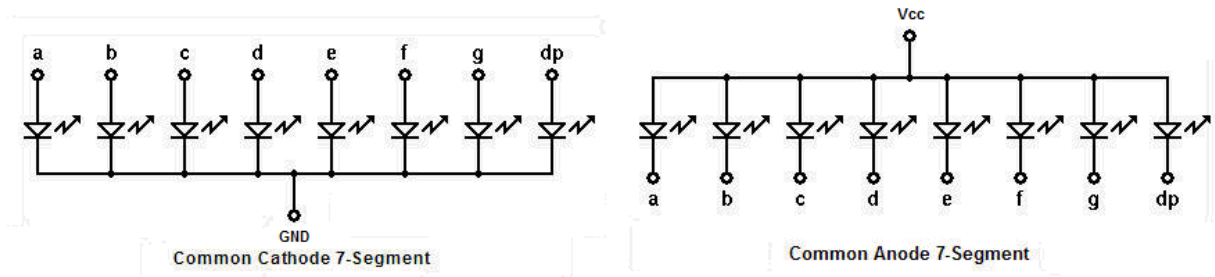

Figure 8.4 Types of 7-Segment Display
There are two main types of seven-segment LEDs, the common cathode (CC) and the common anode (CA). In the CC type, the cathodes for all segments are joined in a single node. On the other hand in CA type, the anodes are joined together in a single node. (see Figure 8.4)